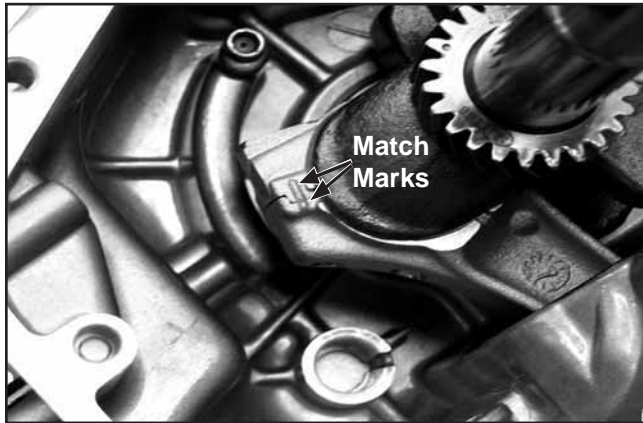

Figure 10-6. Aligning Match Marks.
6. Rotate the crankshaft to mate with the connecting rod. Align the rod cap and connecting rod to match the marks. Torque the screws to **12.5 N·m (110 in. lb.)**. See Figure 10-6.